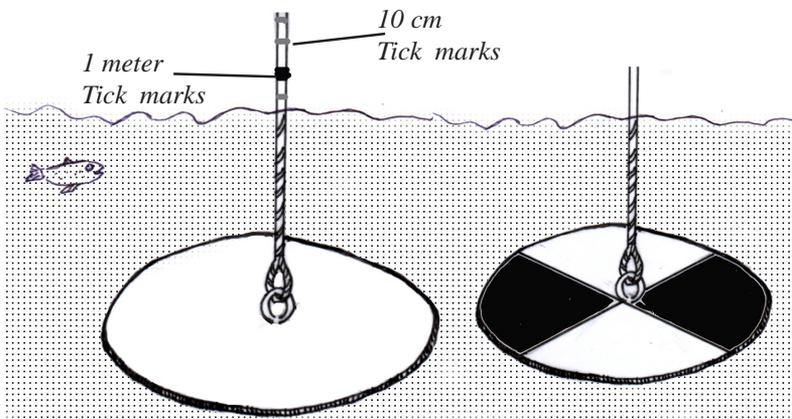

Figure 3-4: Secchi disks (White: salt water; Black and white: fresh water).
2. Record the depth at the point where the Secchi disk disappears by counting the tick marks on the measured line. Each small tick mark is 10 cm and the large tick marks are meters (Figure 3-4).